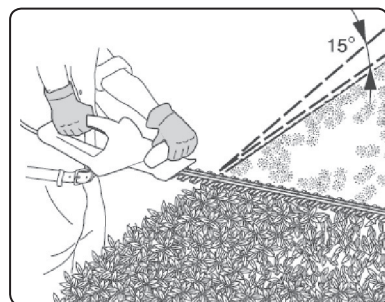

Fig. 4
- When forming the top part of the hedge, guide the trimmer at a slight angle relative to the plane of the cut. This method enables a more effective cut, see fig. 4.